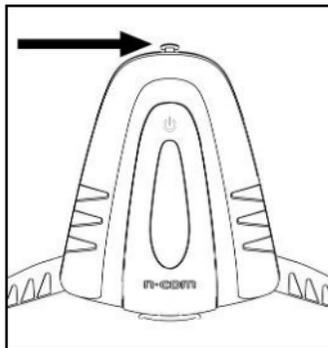

Fig. 2
- Make sure the safety block is properly listed, as shown in Fig. 2. If the safety block is closed, lift it as explained in the chapter entitled "Removal";